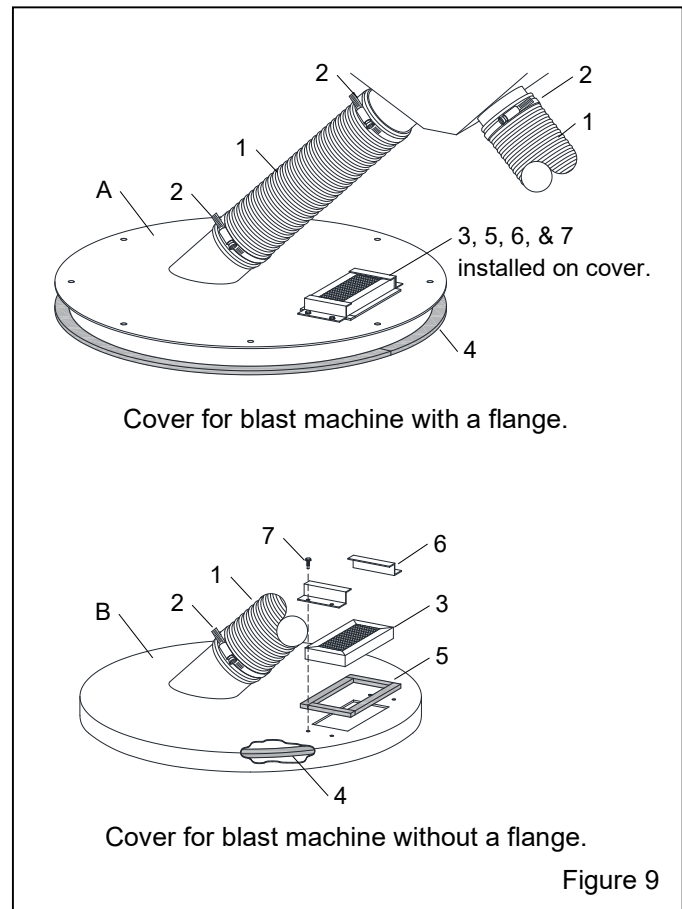

Figure 9
6.0 REPLACEMENT PARTS and ACCESSORIES Refer to Figure 9